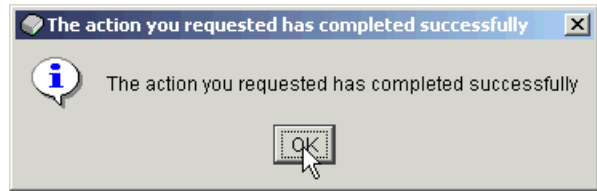

Figure B-19 Disks added successfully to Disk Pool
14. When complete, click **OK** on the information panel shown in Figure B-19.